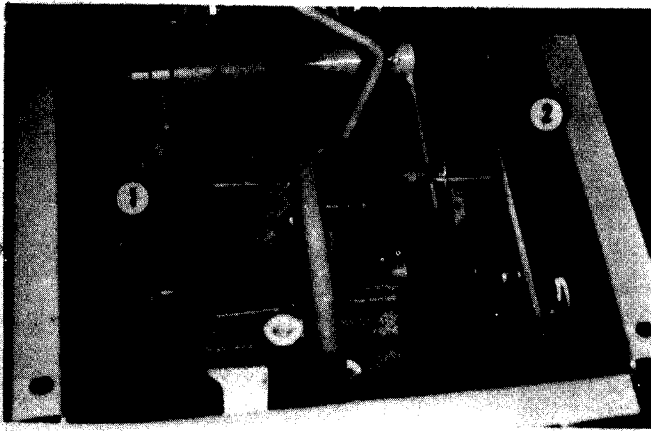

FIG. 4.14-GEARBOX LOCATION
- a. Position gear box in place as shown in Fig. 4.14.